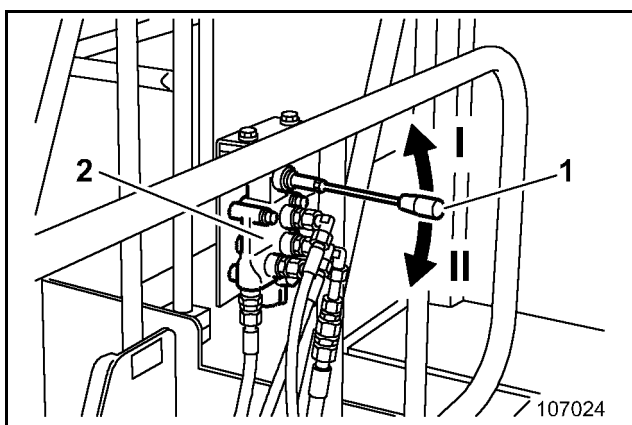

Fig. 2-13:
- Pull lever (1, , Fig. 2-13:) on control valve (2) upwards to position "I".
- Push lever (1, Fig. 2-13:) on control valve (2) downwards to position "II".